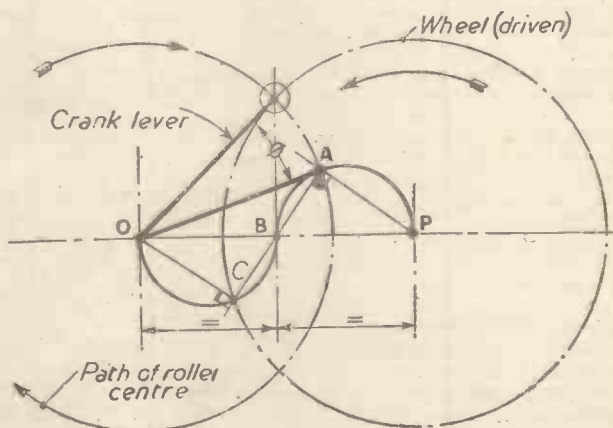

Fig. 5.—Diagram of geometrical construction for position of crank when velocity ratio is unity.
The position of the crank at the instant of a particular velocity ratio can be determined by a graphical method illustrated in Fig. 5. For example, consider the configuration of the mechanism when the velocity ratio is unity, i.e., when the angular velocities of driving and driven shafts are the same. The construction is as follows: line of centres OP is bisected at B and semi-circles are drawn on the segments OB and BP on opposite sides of centre-line OP as shown. The point of intersection A of the semicircle BAP with the circular locus of the roller centre, then defines the required position OA of the crank when the velocity ratio is unity. As a check using equation (1) the velocity ratio